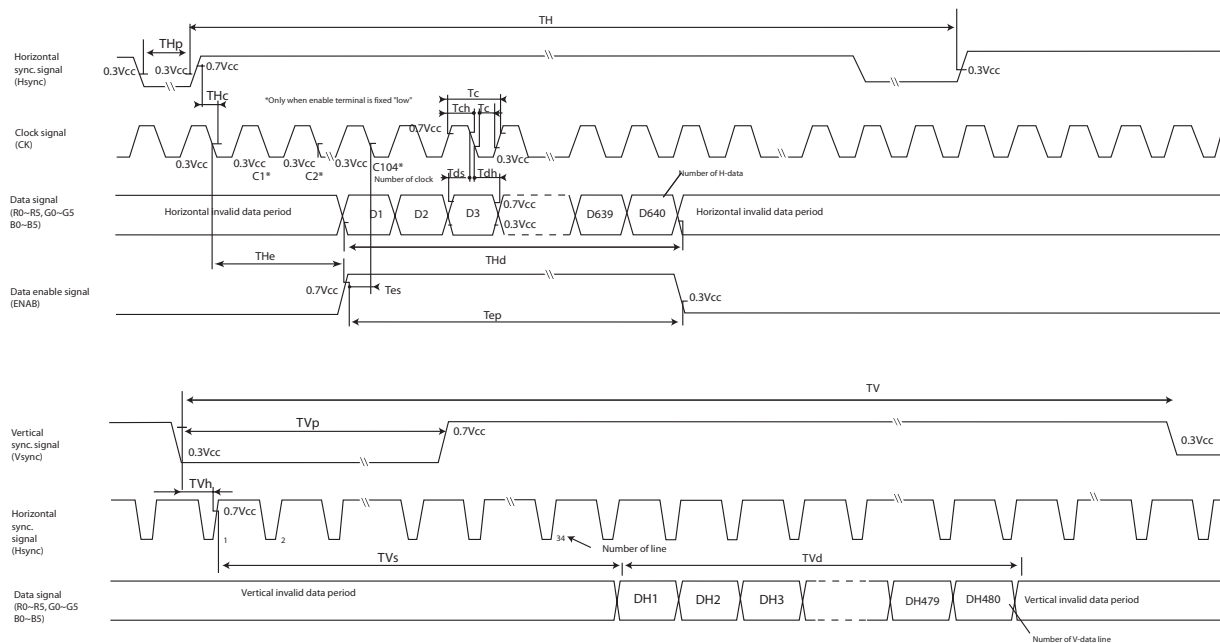

Fig 2-1 Input signal waveforms (480 line mode)
Timing diagrams of input signal are shown in Fig. 2-1~3.
1) When ENAB is fixed "Low", the display starts from the data of C104 (clock) as shown in Fig. 2-1~3. Be careful the module does not work when ENAB is fixed "High".